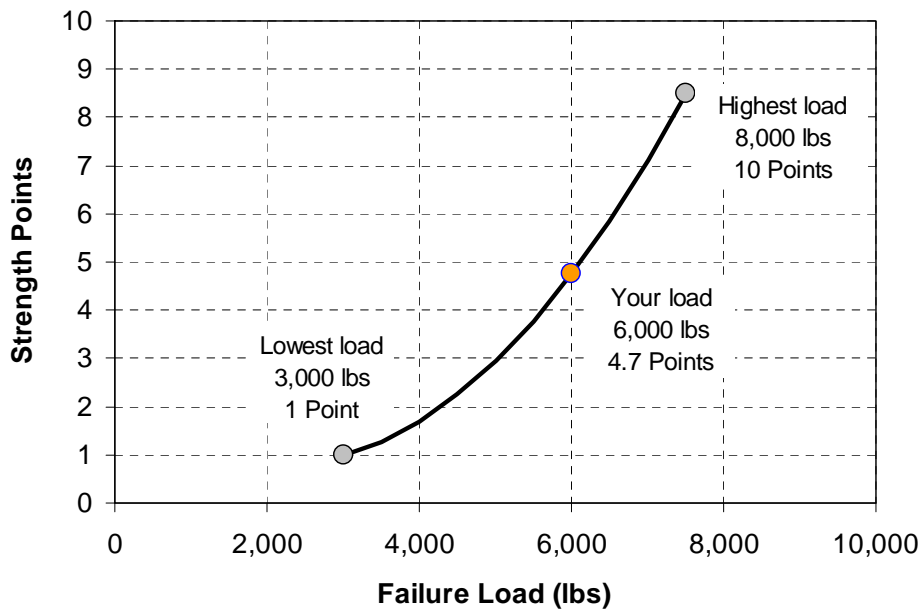

Figure 3: Example Calculation of Strength Points
- 7.8 The team with the highest beam failure load will be awarded 10 points. The team with the lowest beam failure load (of all beams tested) will be awarded 1 point. All other strength points will be determined using Equations 2 and 3 and will be rounded to the nearest 0.1. An example of the strength points awarded is shown in Figure 3.